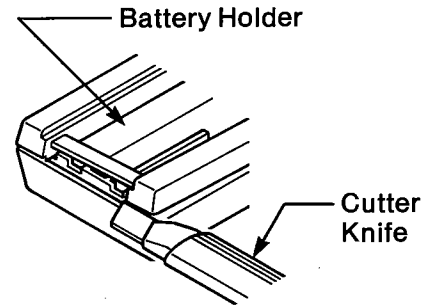

Fig. 1
2. Insert the cutter knife between the cabinet top and bottom to get unhinged as shown in Fig. 1. Take care not to scratch the cabinet.